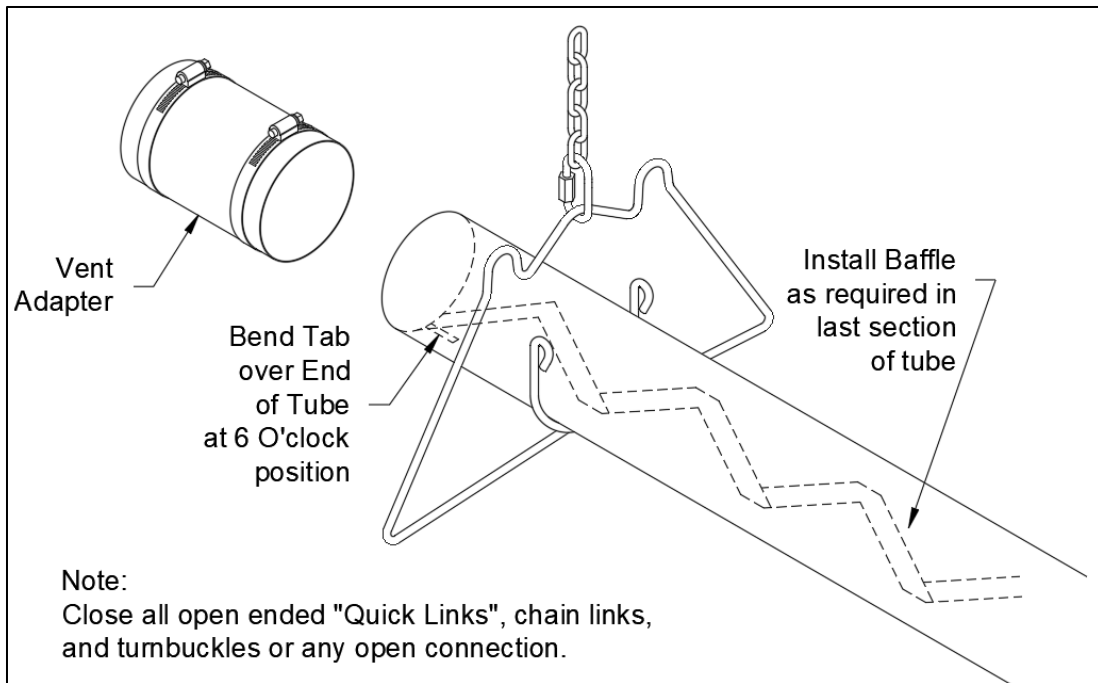

Figure 12: Baffle Installation
- If required for your heater model (refer to Table 1), install the baffle at the end of the heat exchanger. The small tab on the baffle is folded over the end of the tube and clamped in place by the vent connector and vent system, refer to Figure 12.